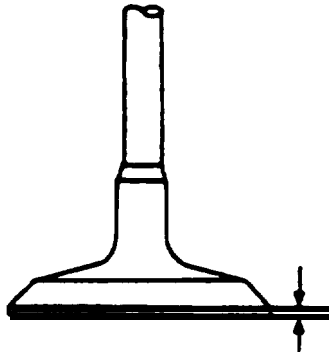

FIGURE 3-68. Checking Valve Thickness
- (2) If measured value is less than limit, replace valve and valve stem as a set.
- (3) Intake valve stem standard OD is 0.3129 to 0.3134 in. (7.949 to 7.961 mm), with a limit of 0.3102 in. (7.88 mm). Exhaust valve stem standard OD is 0.3118 to 0.3124 in. (7.921 to 7.936 mm), with a limit of 0.3090 in. (7.85 mm)
- g. Check valve thickness, refer to FIGURE 3-68. Standard measurement is 0.05 in. (1.3 mm), with a limit of 0.04 in. (1.0 mm). If measured value is less than limit, replace valve and valve guide as a set.